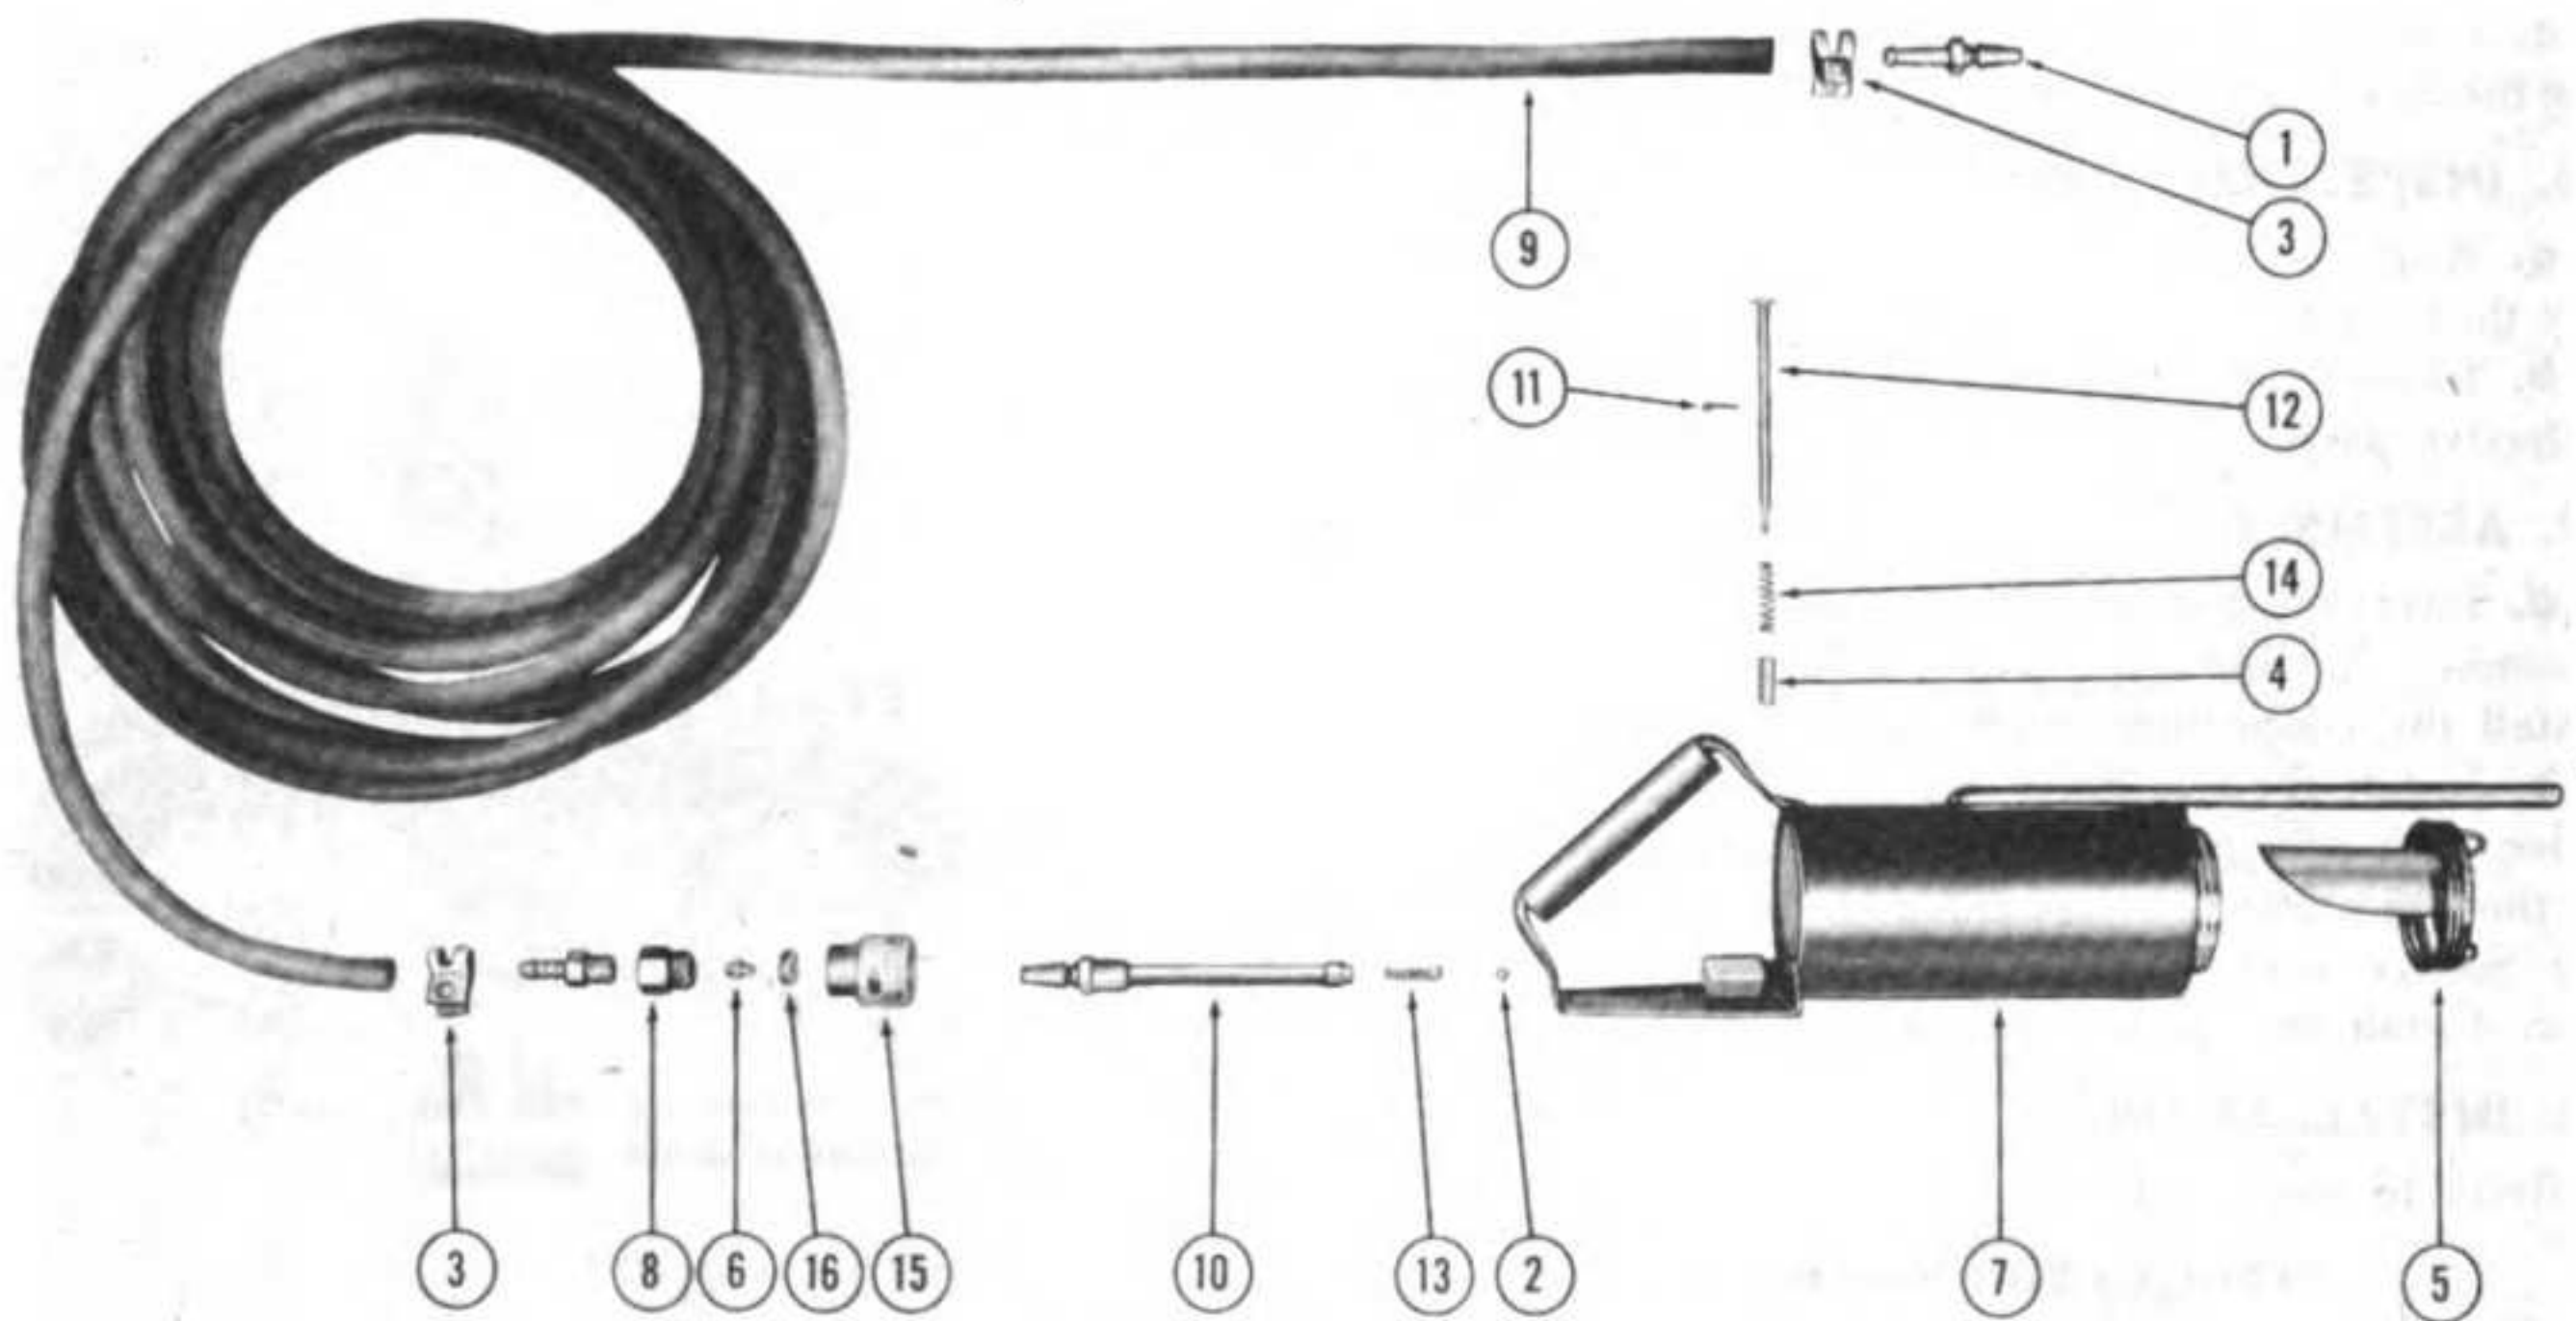

Figure 62—Exploded View of Dusting Gun and Hose
b. Remove the cotter pin in valve push pin, releasing the push pin spring and coupling. (See figure 62.)